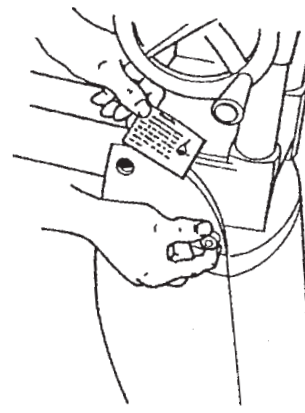
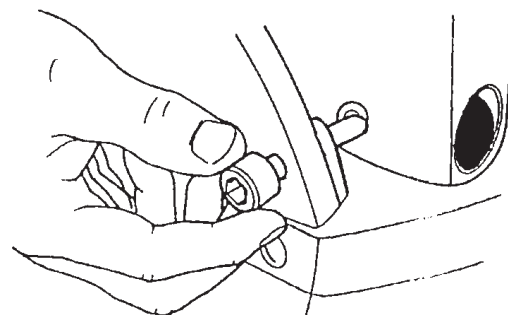

Figure B-47
Figure B-48
7. See Figure B-47. Use your fingers to tighten the base lock (2). Note the base lock is slightly off center to the countersink found in the bench base, as shown in Figure B-48. This offset allows the base lock to more firmly hold the base arm in place.